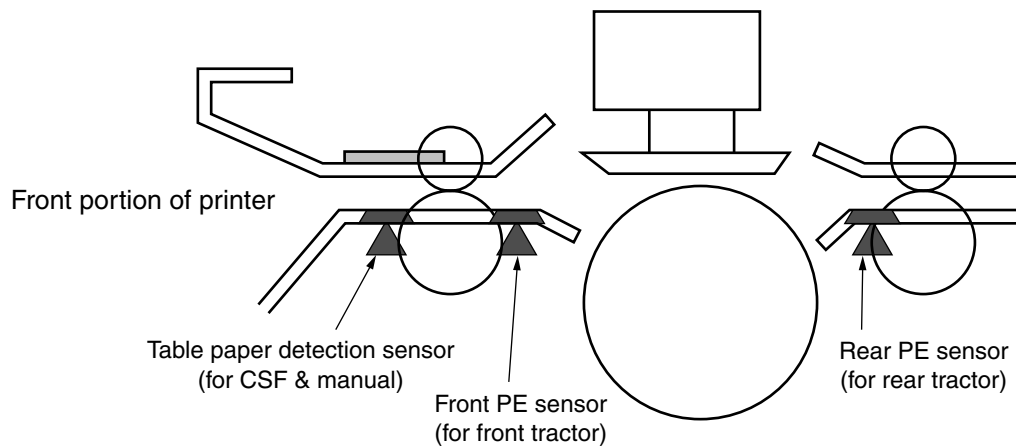

Figure 12-12 Mechanism of Paper End Detection
12.3.6 Mechanism of the paper end detection (See Figure 12-12)